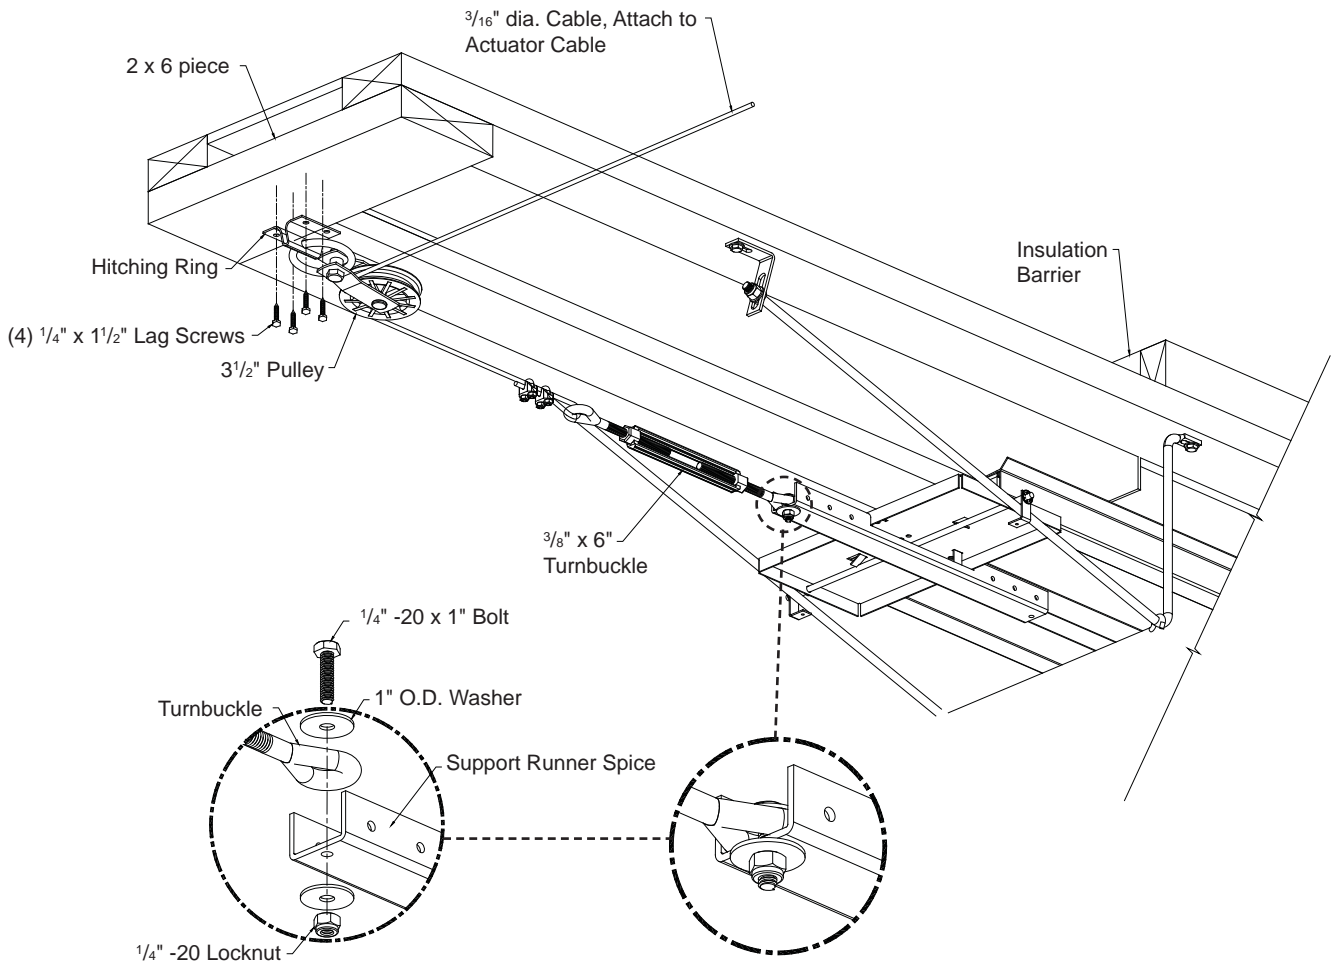

Figure 11
Install the hitching ring with (4) 1/4" x 1¹/₂" hex head lag screws. The hitching ring should be positioned slightly off the center line of the baffle, so that the pulley is positioned to allow the cable, coming off the pulley, to be inline with the center of the baffle. **See Figure 11.**
With the turnbuckle in the half extended position attach one end of 3/16" dia. cable using two cable clamps. Thread the cable through the pulley and attach it to the actuator cable. Note the proper cable routing and connections, **See Figure 11.**